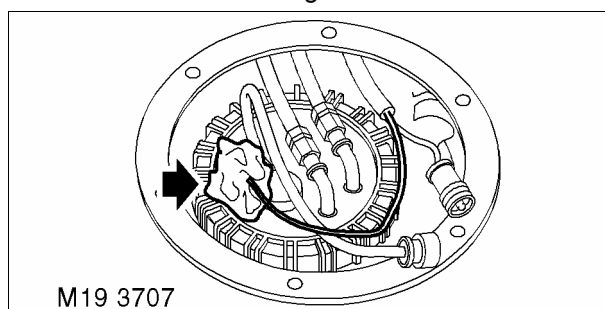

Fig. 5
- 11 Remove sealant and disconnect earth lead from fuel pump tank unit. Fig. 5